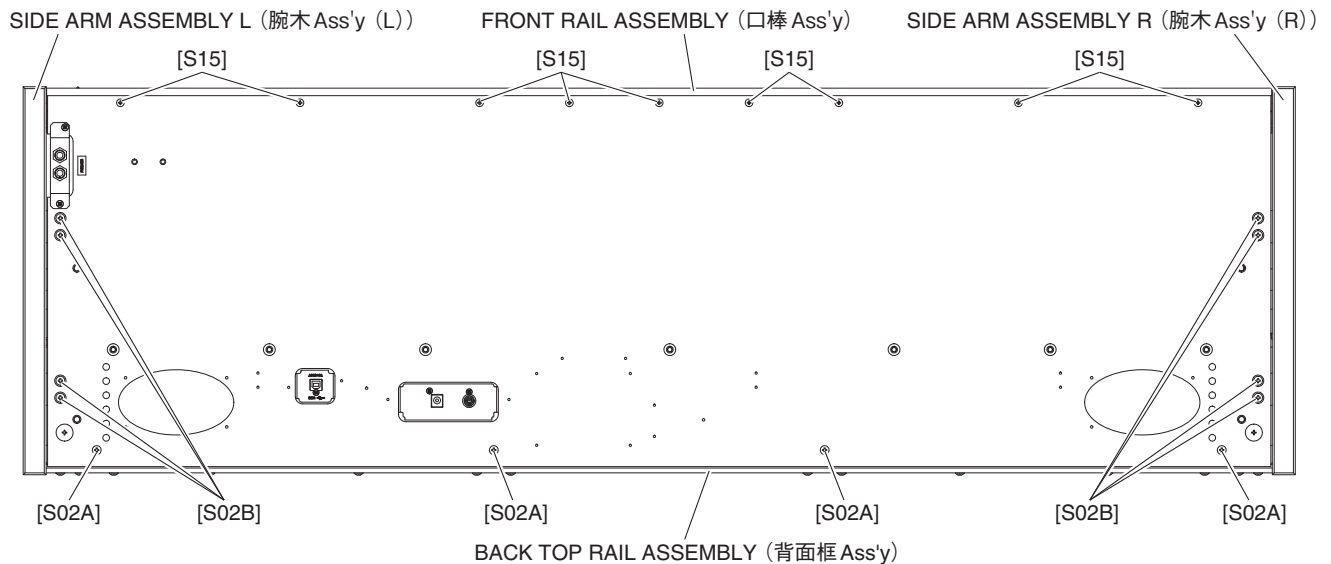

Fig. 12 (図12)
- 16-2 Remove the four (4) screws marked [S01] and four (4) screws marked [S02A]. The back top rail assembly can then be removed. (Fig. 12)
- 16-2 [S01] のネジ 4 本と [S02A] のネジ 4 本を外して、背面框 Ass'y を外します。(図 12)
- 17-8 Remove the nine (9) screws marked [S15]. The front rail assembly can then be removed. (Fig. 12)
- 17-8 [S15] のネジ 9 本を外して、口棒 Ass'y を外します。(図 12)
- 18-9 Remove the four (4) screws marked [S02B]. The side arm assembly L can then be removed. (Fig. 12)
- 18-9 [S02B]のネジ4本を外して、腕木 Ass'y (L) を外します。(図12)